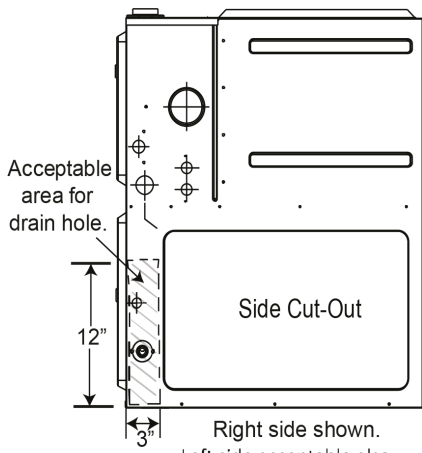

FIGURE 27
*See Front Cover Pressure Switch Tube Location on Figure 27.